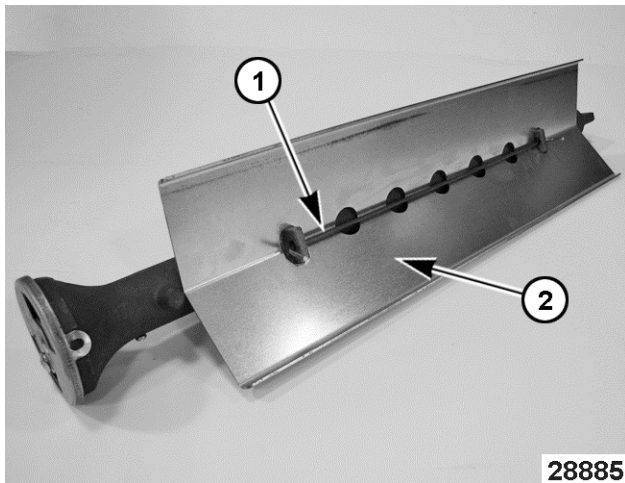

Fig. 72
5. Remove burner rod (1, Fig. 72) securing deflector (2, Fig. 72) to burner.